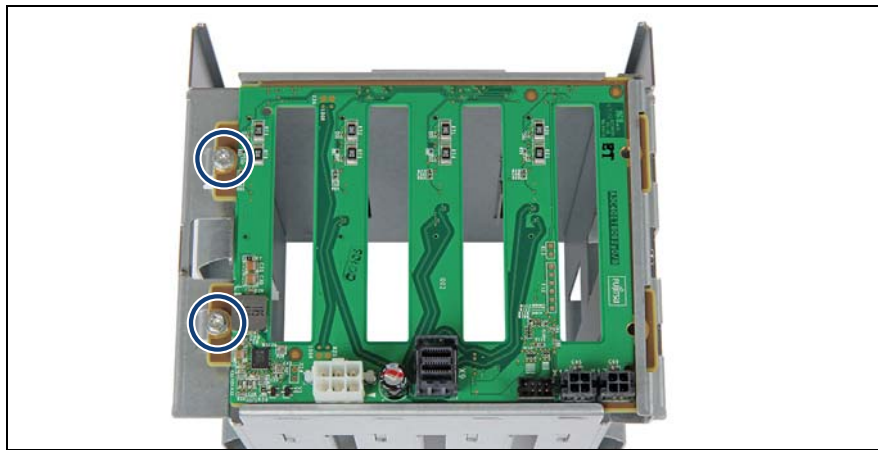

Figure 159: Removing the HDD backplane (A)
- ▶ Fasten the HDD backplane with two screws (see figure 159 on page 250).